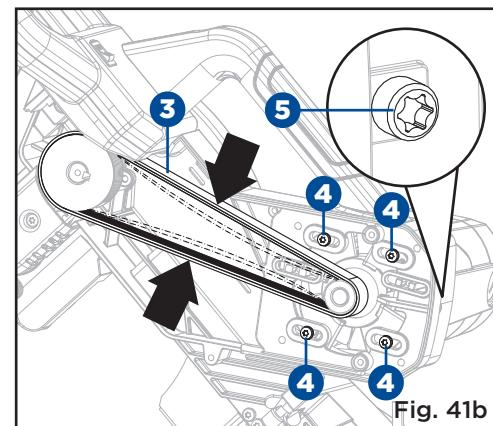

Fig. 41b
- Check belt tension by squeezing the belt (3) as shown in Fig. 41b. The belt halves should almost touch when squeezing firmly with the thumb and index finger.
- To adjust the tension, loosen but do not remove the four set screws (4) with flower wrench T25 (not supplied).
- Rotate the set screw (5) with the wrench (supplied) on the top of the motor plate casing until the proper tension is achieved.
- Tighten the four set screws (4) securely.
- Replace the belt cover (2) and tighten four belt cover screws (1).